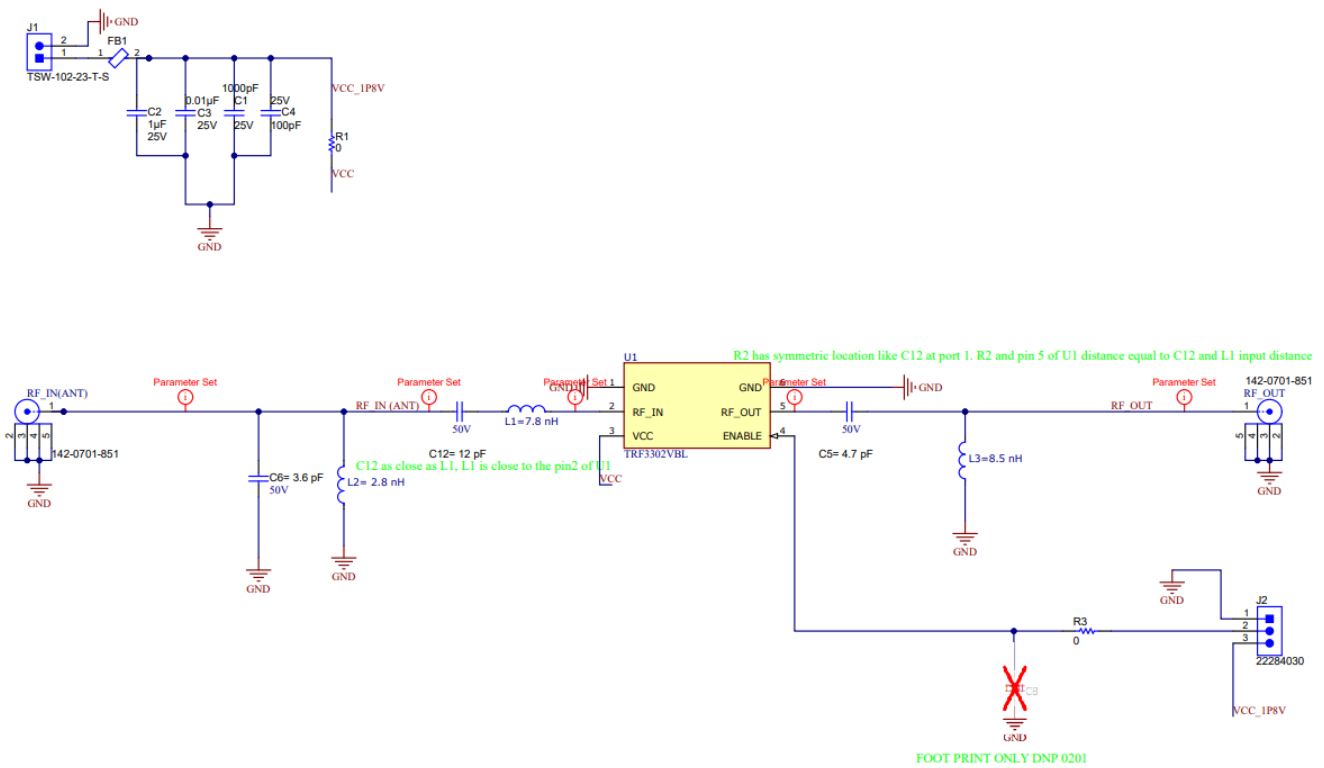

Figure 3-3. TRF3302EVM Schematic for All GPS/GNSS Bands
4. Replace C6, C12, L1, and L2 with 3.6pF, 12pF, 7.8nH and 2.8nH to optimize performance across 1165 to 1630MHz (all GPS/GNSS bands) as shown in Figure 3-3. R2 has to be replaced with capacitor value 4.7pF and C5 has to be replaced with inductor value 8.5nH to achieve gain flatness and a slight improvement in output matching.